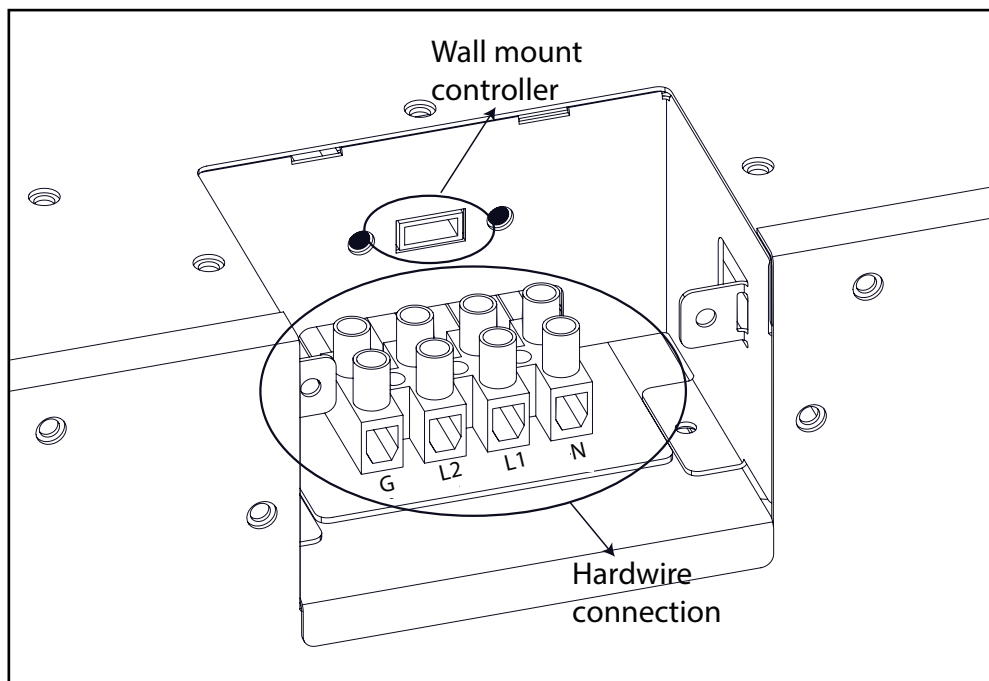

Fig. 4
1. Locate the desired 2 conductor or 3 conductor wire cable to the top right side of the enclosure for the hard-wiring installation based on the desired 120V or 240V heat output capability (**Fig. 4**).